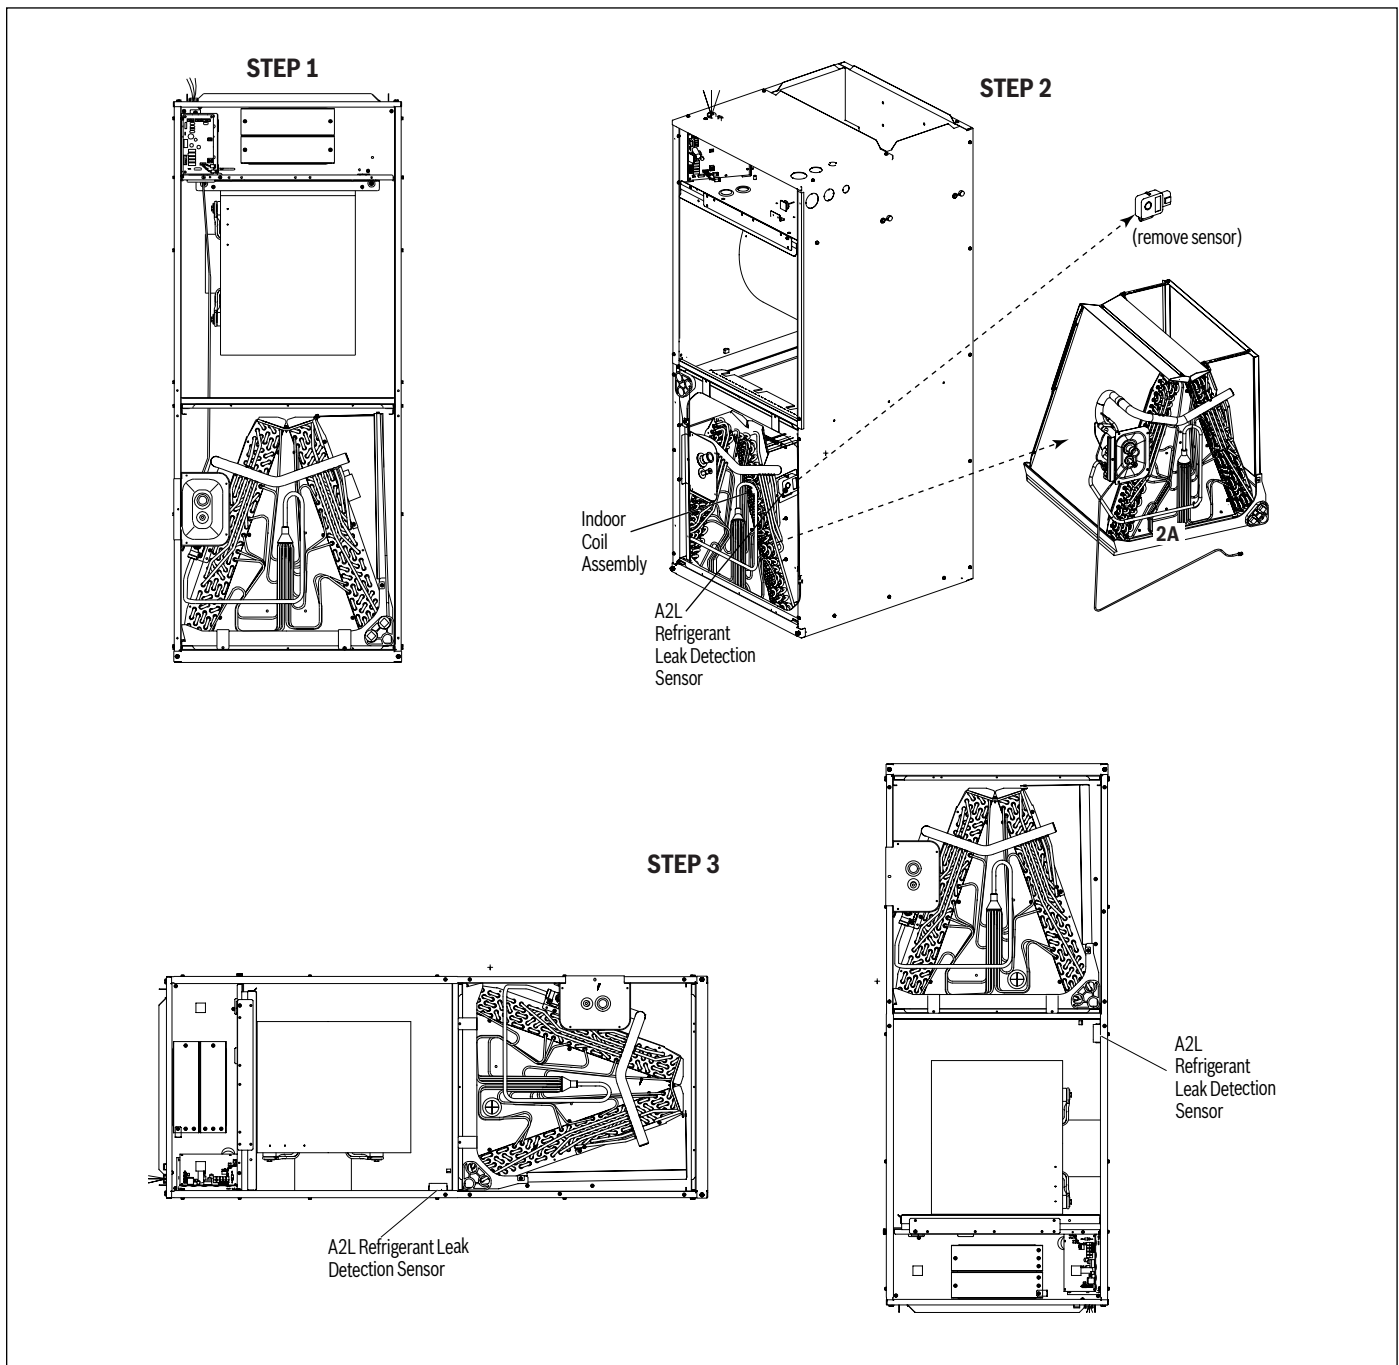
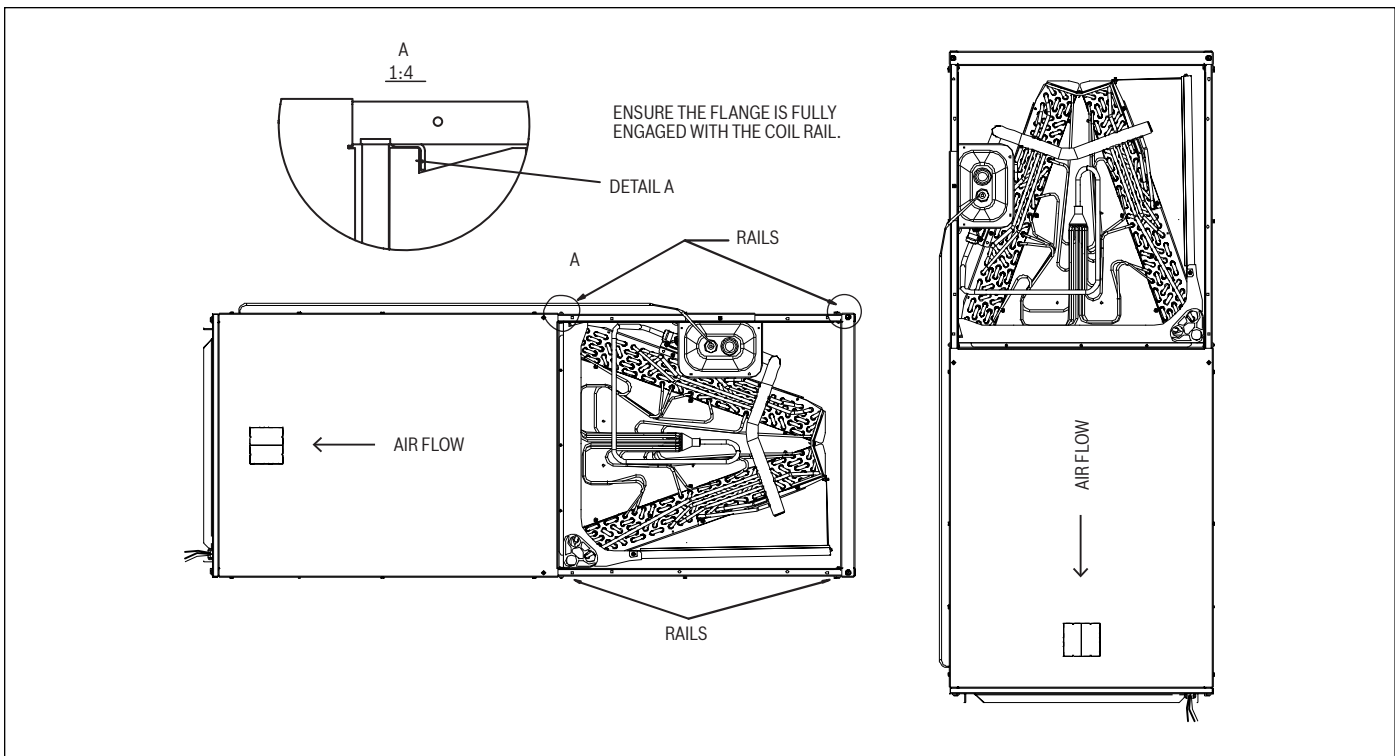

Figure 12 Vertical downflow & horizontal left applications conversion
Figure 13 Vertical downflow & horizontal left applications
A vertical upflow unit may be converted to horizontal left by removing indoor coil assembly and the refrigerant leak detection sensor. Reinstall the indoor coil and the refrigerant sensor for left hand air supply. See Figure 12 and Figure 13.
- Reinstall the indoor coil 180° from original position. Ensure the retaining channel is fully engaged with the coil rail. See Figure 12 and Figure 13.
1. Remove the screws and front panel (Figure 12, Step 1).
2. Remove the A2L refrigerant sensor from the coil (Figure 12, Step 2).
3. Reinstall the A2L refrigerant sensor at the position shown below. (Figure 12, Step 3).
4. Replace the coil in the correct orientation and secure in place. Ensure the flanges on the evaporator coil are engaged with the guide rail inside the cabinet. (Figure 13).